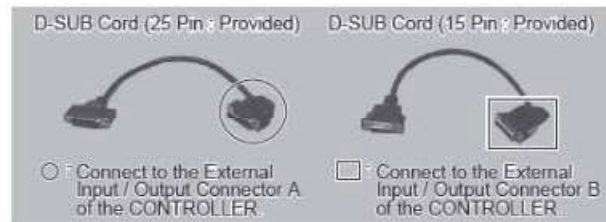

Fig. 28
- (1) Insert the D-SUB Cord (25 / 15 pin : provided) Connector (connector with the side exit of the cord) into the External Input / Output Connector A / B of the rear of the CONTROLLER (Refer to the Fig. 28, 29).